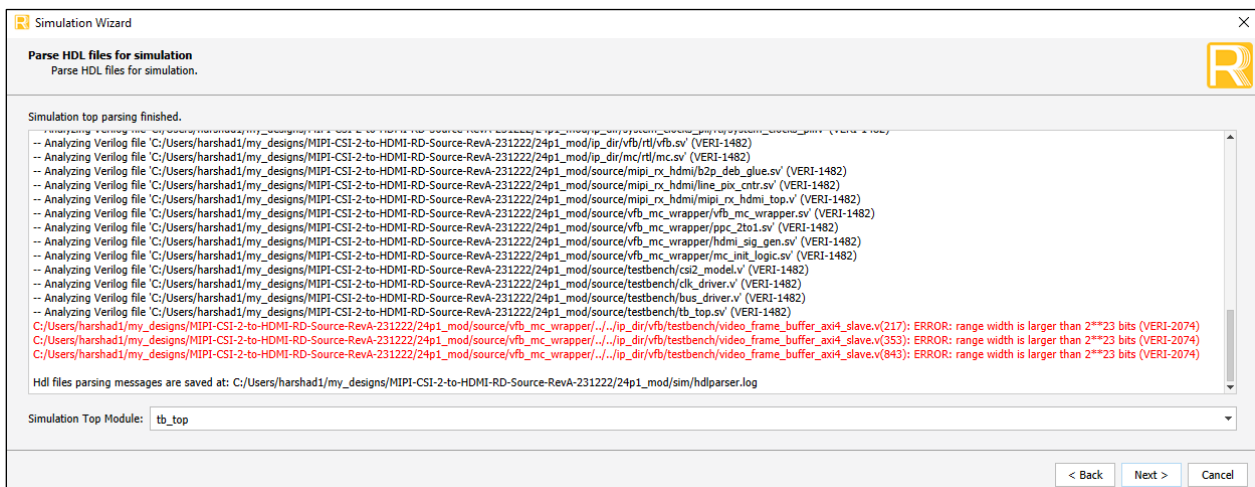

Figure 4.11. Parse HDL Files for Simulation Interface
3. Note there are errors in the *Parse HDL files for simulation* interface. You can ignore the errors shown in Figure 4.11.